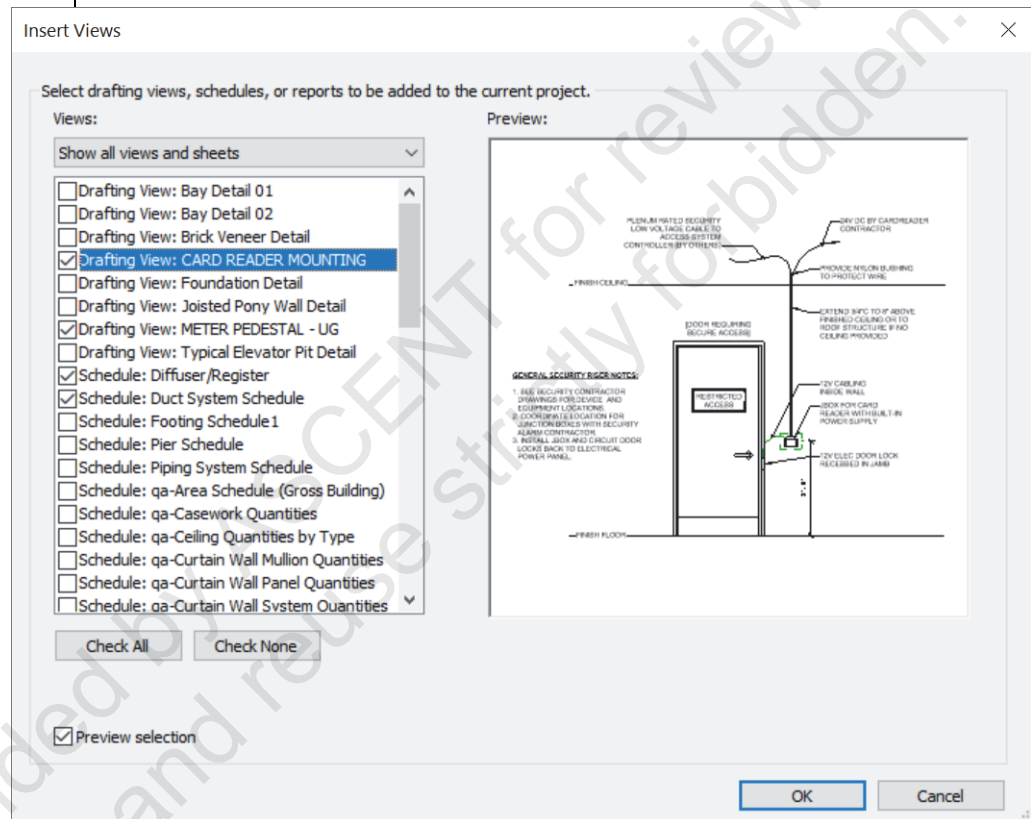

Figure 1–35
5. Select one or two drafting views and one or two schedules from the list, as shown in Figure 1–35.